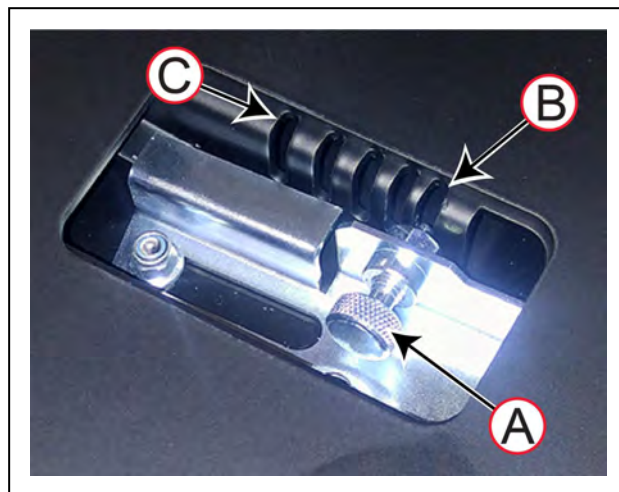

Figure 3-18 Adjusting the Height of the Docking Station Contacts
The height adjustment mechanism is on the underside of the docking station's floor plate, shown in Figure 3-18.
5. Pull out the pin (A) and slide it in the direction (C) to select a position slot (B) Adjust the position of the paddle as shown in Figure 3-18. The height changes by 4 mm for each notch.